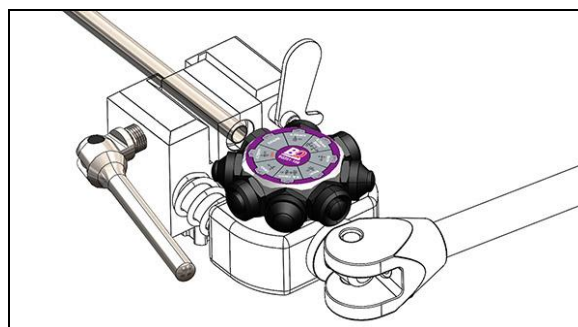

Figure 4
5. Pull the handle slowly until the punch comes in contact with the tube, then pull the handle further until the punch bottoms out in the die set (**Figure 4**).